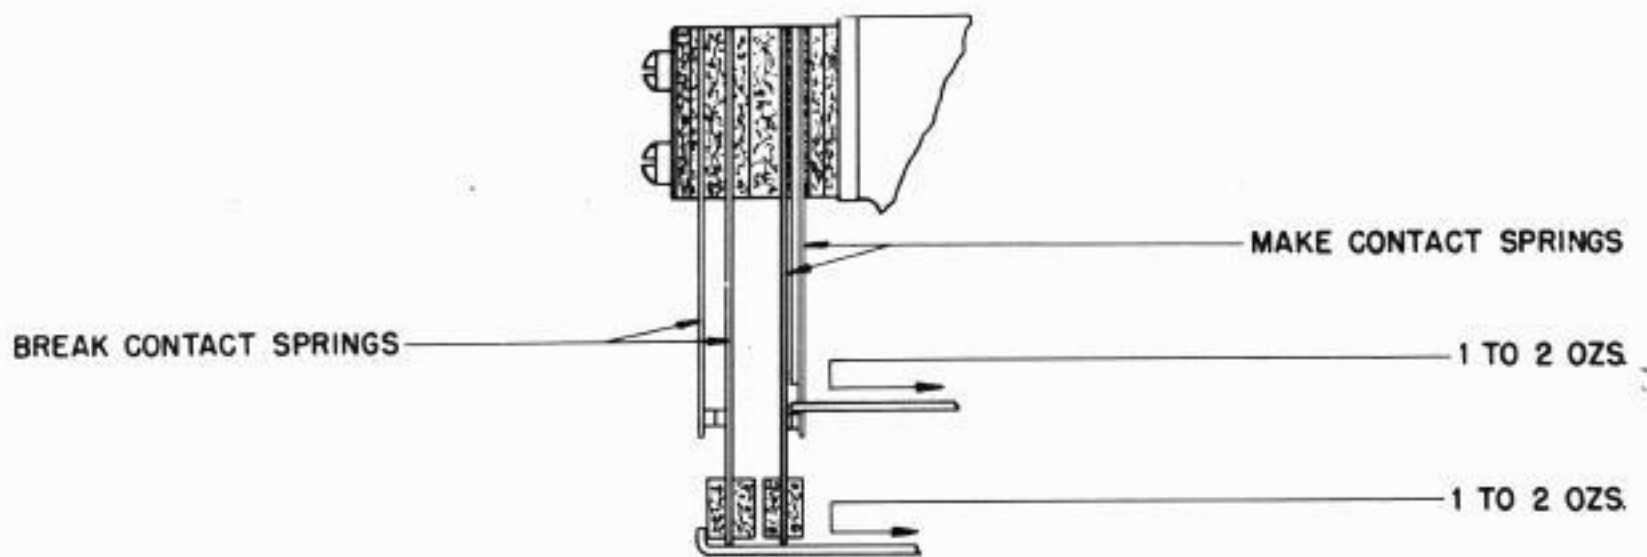

FIGURE 4
- (2) With the contact pawl in the unlatched position, hold the insulator on the long MAKE contact spring away from the insulator on the long BREAK contact spring. Under this condition hook an 8 oz. scale to the insulator on the long BREAK contact spring and pull at right angles to the spring. It should require 1 to 2 ozs. to separate the contacts and both contacts should break approximately simultaneously. See Figure 4. To adjust, bend the long BREAK contact spring. Recheck requirement (1).